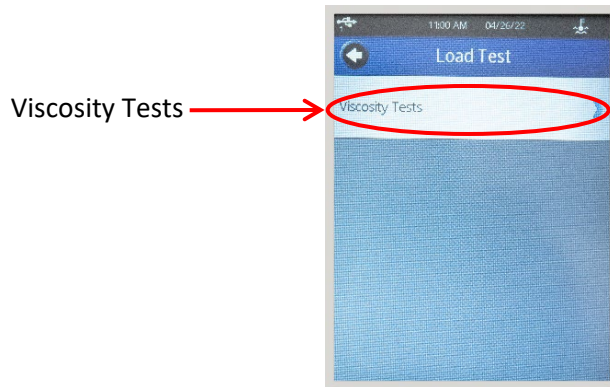

Figure 23: Load Tests Screen
10. Press the **Viscosity Tests** button. See Figure 23.